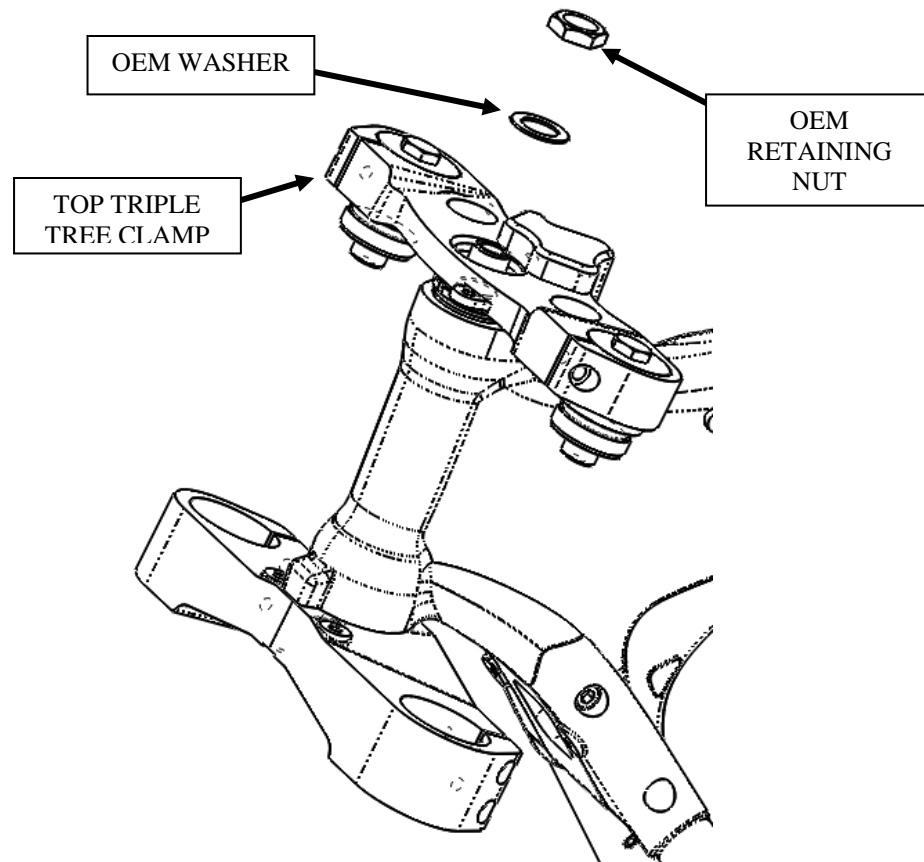

Figure 23: Install the top triple tree clamp, retaining nut, and washer.
6. Install the new top triple tree clamp, retaining nut, and washer. Do not torque the retaining nut at this time. See Figure 23
14. Torque the retaining nut on the upper triple tree to 72 ft.-lbs. See Figure 23.